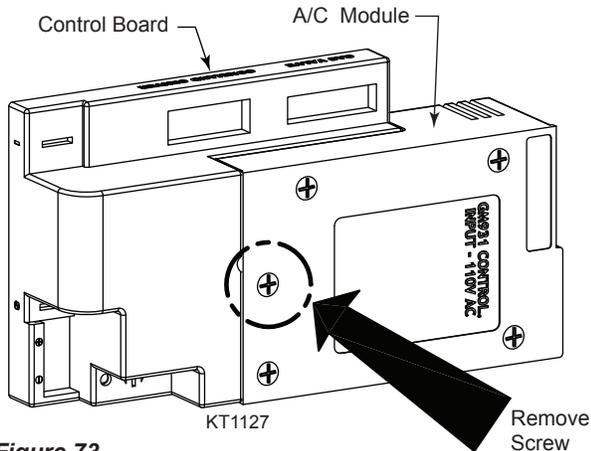

Figure 73
9. Separate the A/C module from the control board by removing screw. *Figure 73*